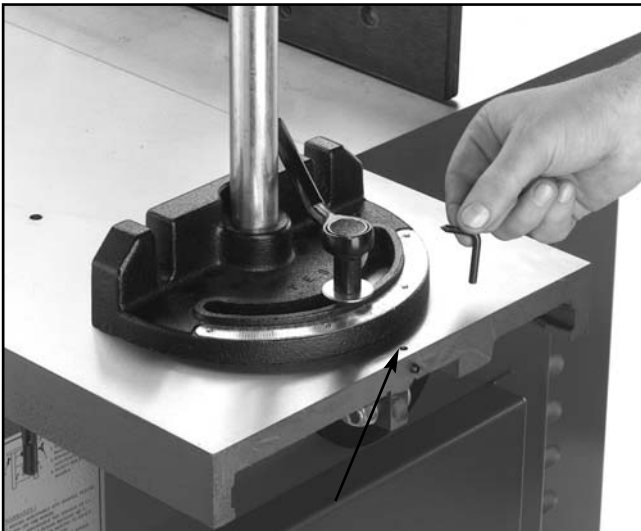

Figure 22. Installing the pointer.
5. Insert the the miter gauge pointer shown in **Figure 22**, but do not tighten the nearby setscrew at this time.